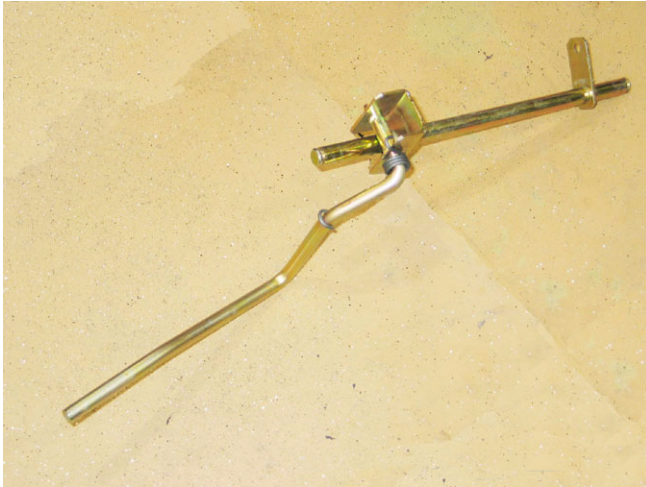

Figure 7.8
- 7.8. The cross shaft, control lever, and torsion spring can be disassembled on the bench. See Figure 7.8.